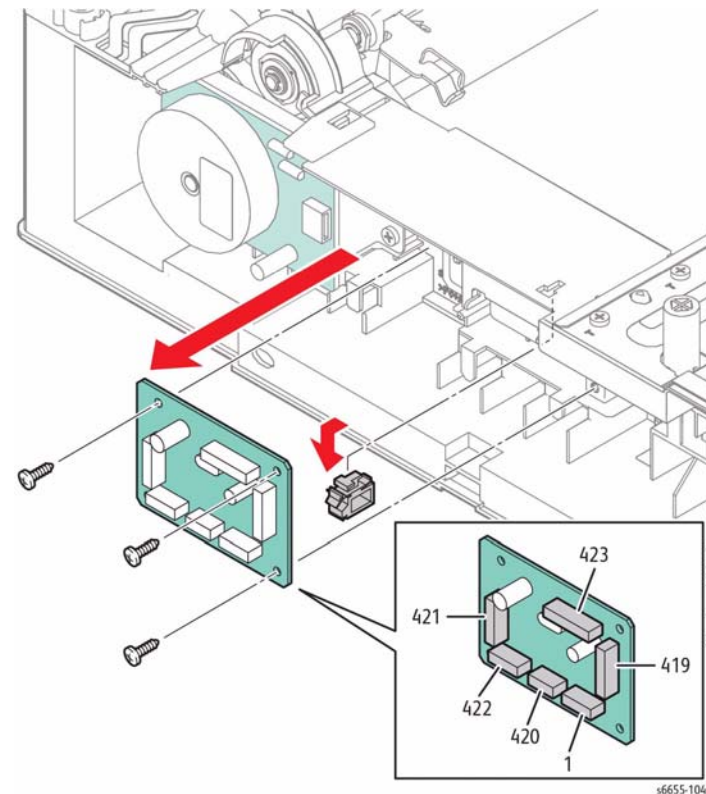

Figure 1 Remove the 550 Option Feeder Board
5. Refer to Figure 1 to locate and remove the three screws (silver, tapping, 8 mm) that attach the 550 Option Feeder Board to the feeder and remove the board.